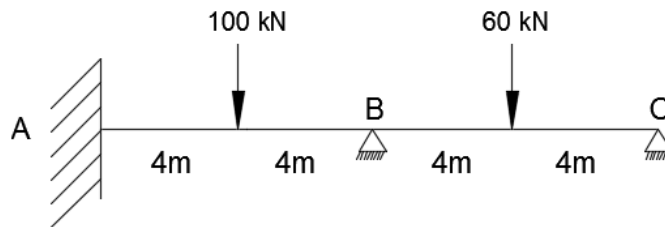

Fig.5
10. Analyse the continuous beam shown in **fig.5** by stiffness method. Draw bending moment diagram and shear force diagram. **14M**